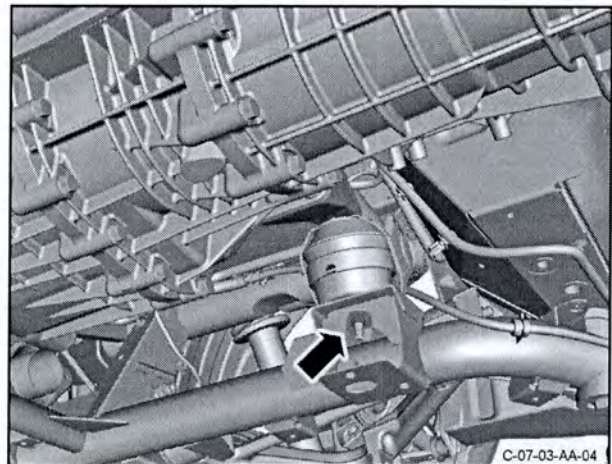

Figure 17
27. Remove the nut that attaches the left side transaxle mount to the rear subframe (refer to Figure 17).